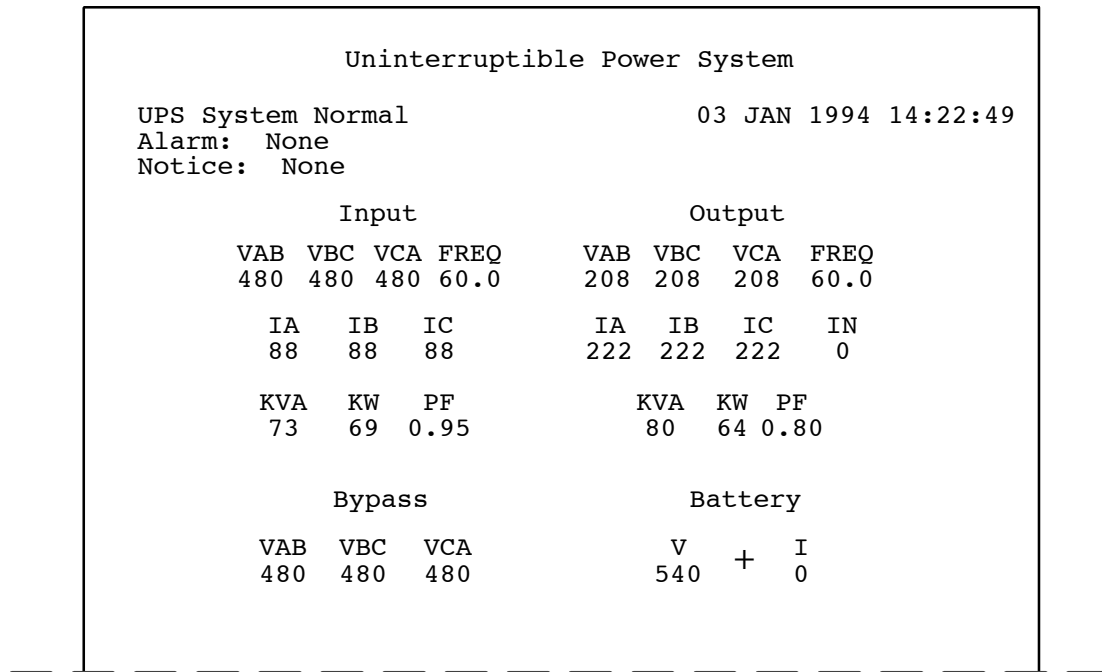

Figure 28. System Meters
This key sequence prints the current readings of the UPS system meters. The Input area shows the phase-to-phase voltage, frequency, and phase current of the incoming utility, followed by the kVA, kW, and power factor measurements. The output area shows the same information for the power being output by the UPS. The Bypass area shows the phase-to-phase voltage of the bypass source. The Battery area displays the DC voltage (V) and the DC current (I). Figure 28 shows a sample Meters printout.